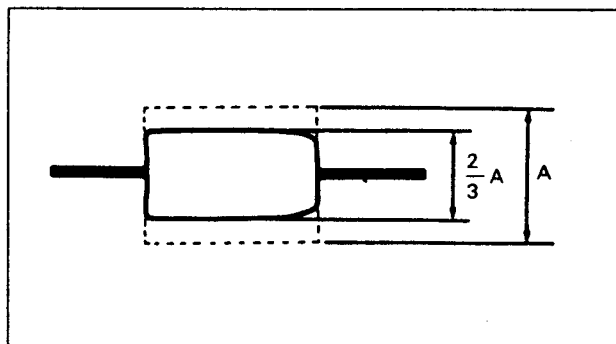

Fig. 2-44.
- 1) Run tracking alignment tape ; Switch the SHIFT TRACK ON, if OFF. the RF wave form becomes about 2/3 of its maximum amplitude (see Fig. 2-44).